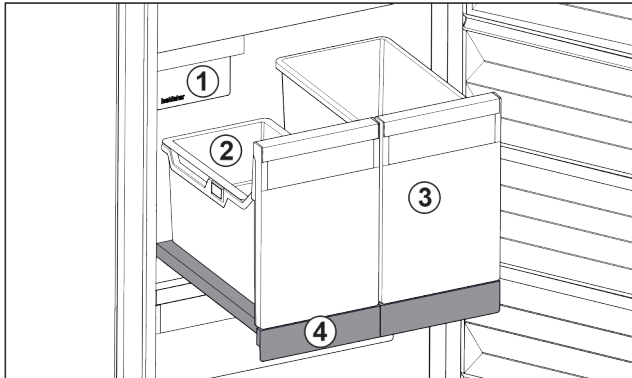

Fig. 98 Pull-out board with IceTower
There are two high (IceTower) containers on the pull-out board. Ice cubes from the IceMaker are collected and stored in the Fig. 98 (2) container. The container Fig. 98 (3) is suitable for storing tall foodstuffs or beverages such as pizzas or alcoholic drinks.